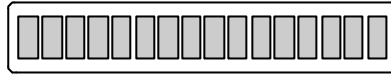
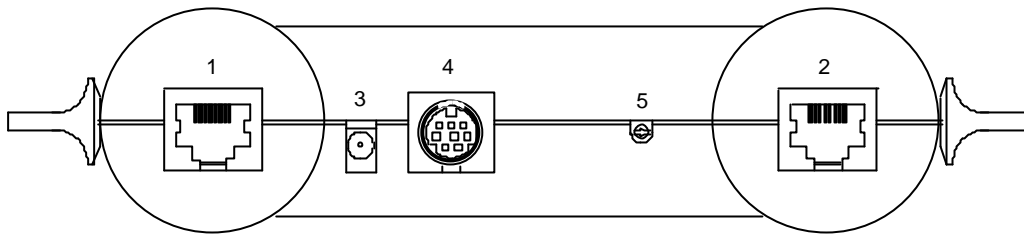

Fig. 1-3
Fig. 1-4
All data is shown on the display (Fig. 1-3) with a maximum of 16 digits on one line. Where the cursor is blinking, the tester expects an input through the numerical keys. The contrast of the display can be adapted to the wishes of the user with the potentiometer on the interface side (Fig. 1-4). The potentiometer can be turned with a small screwdriver.
**NOTE 1 : If the tester is recharged through the S0 Bus it is not allowed to have a cable connected to the passive connector (nr. 2 fig. 1-4). Recharging will only take place if the NT is in normal mode.**